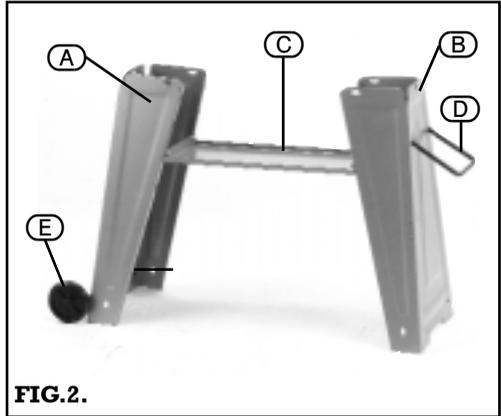

FIG.2.
1. ASSEMBLING THE STAND (FIG.2)